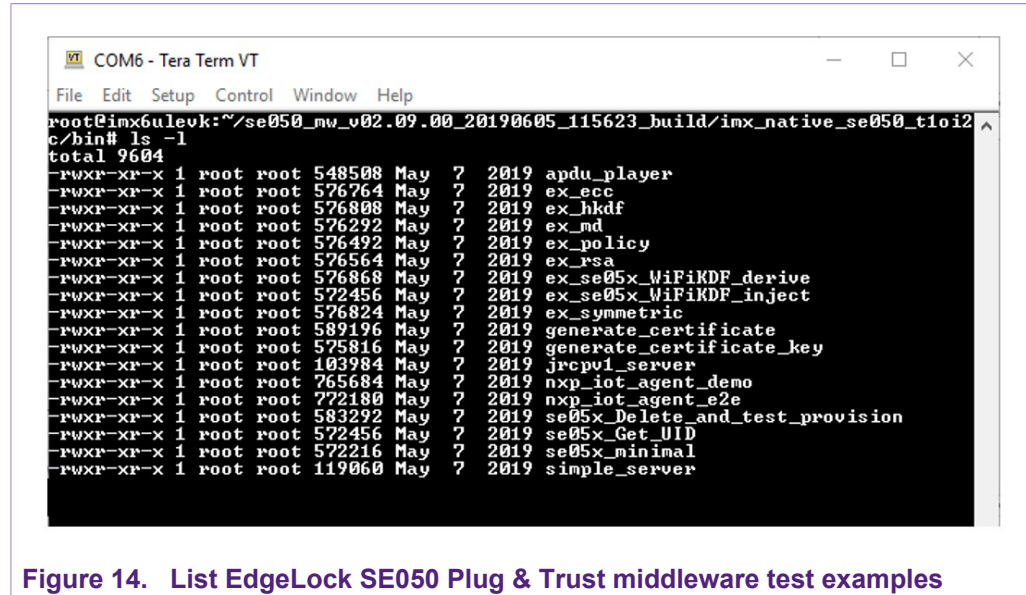

Figure 14. List EdgeLock SE050 Plug & Trust middleware test examples
1. Send the `ls` command as shown in Figure 14